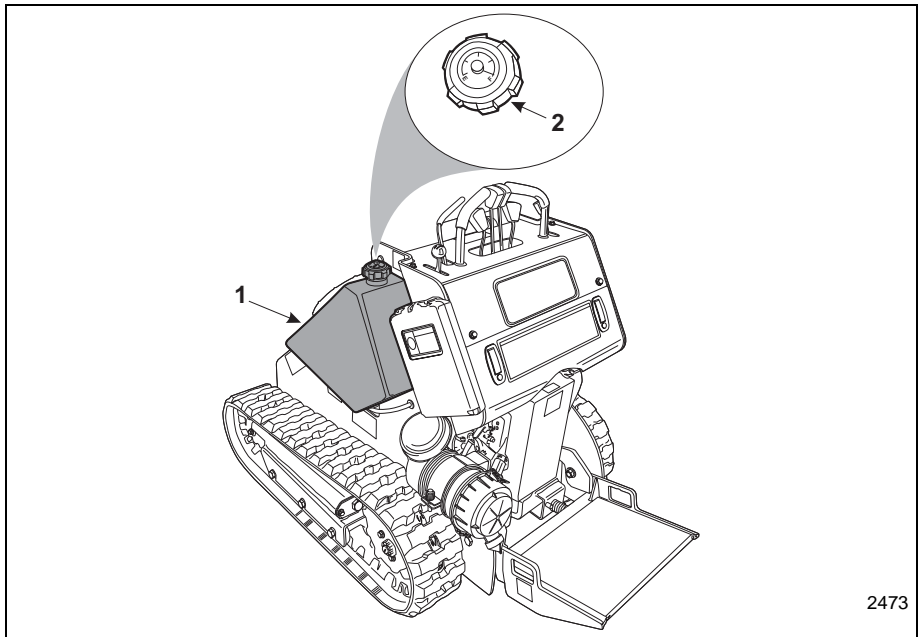

Figure 4-1 Fuel Level Check
- a. The Boxer has one saddle tank (Item 1, **Figure 4-1**), on the left side of the machine.
- b. The fuel tank has a fuel gauge located in the filler cap (Item 2, **Figure 4-1**). Remove cap and visually inspect fuel level to make sure that the indicator is showing the proper fuel level. Make sure that the tank has been filled on a daily basis.